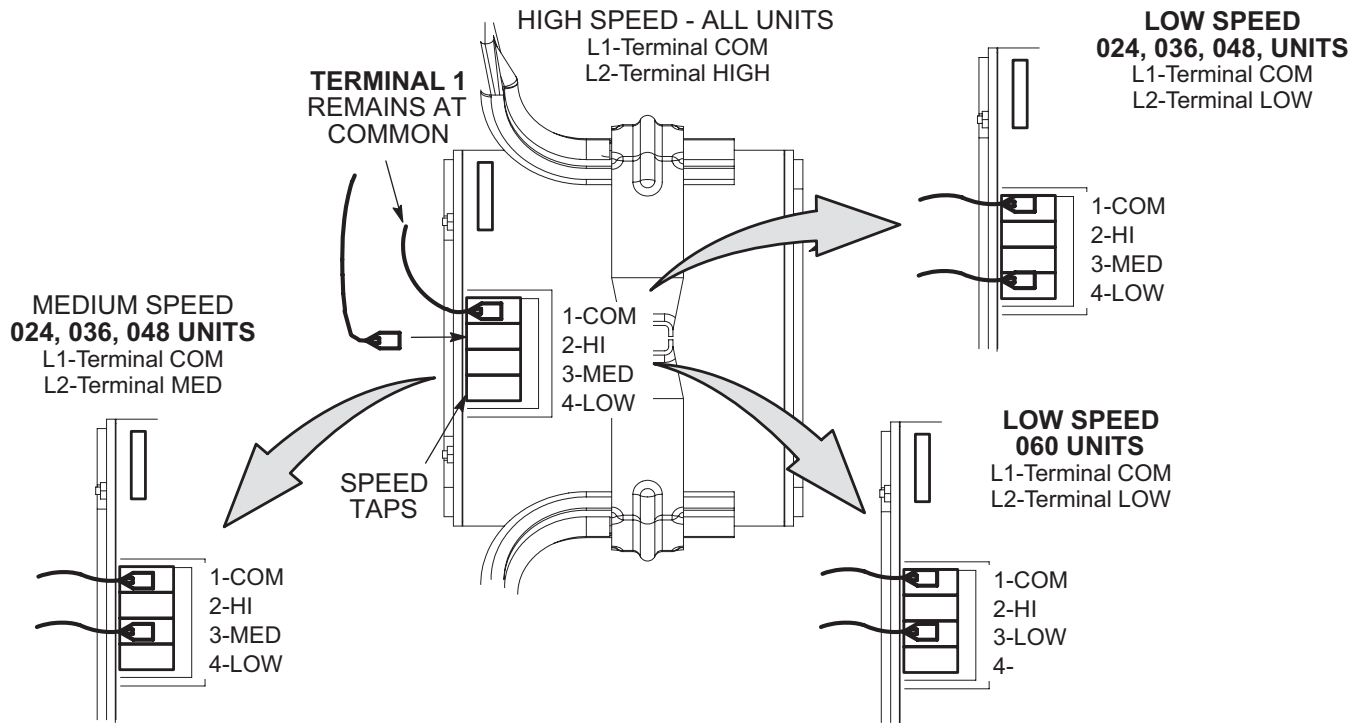
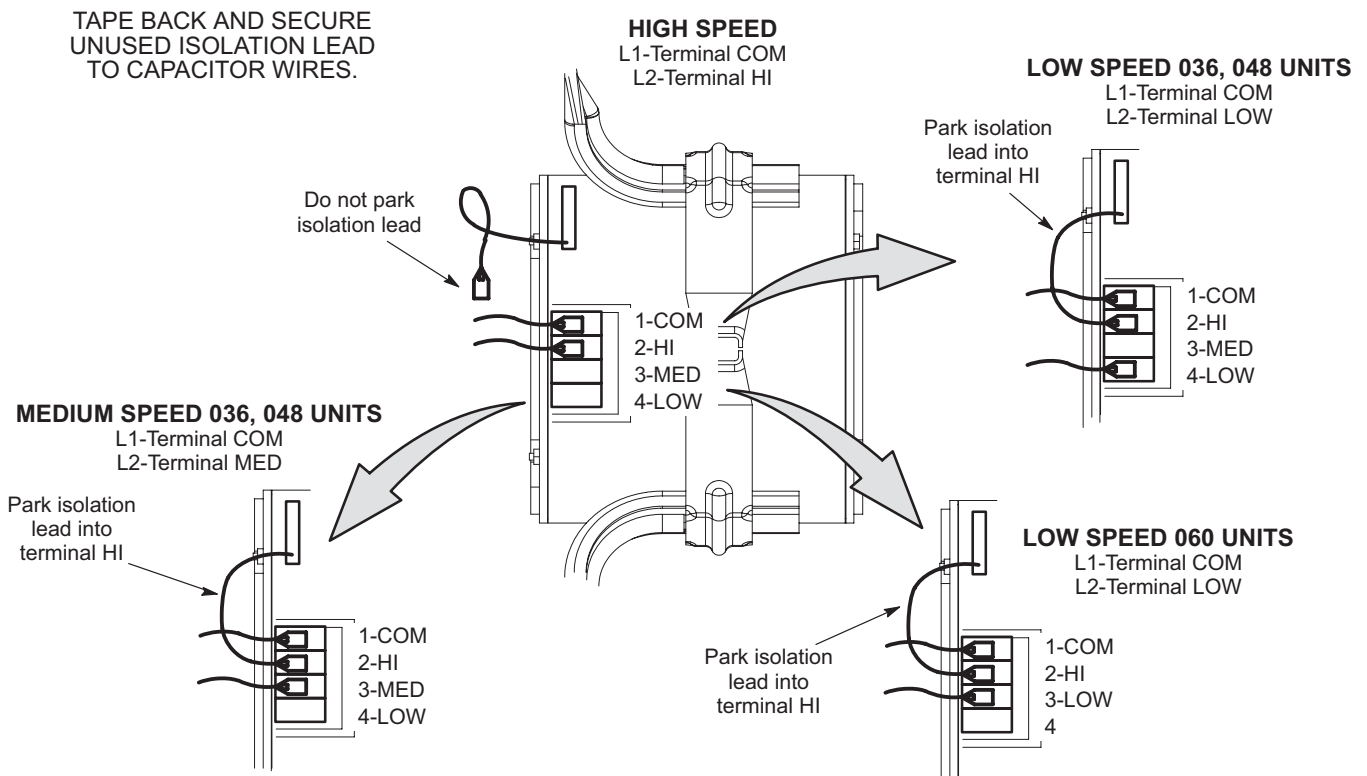

FIGURE 11
FIGURE 12
- 4 - Use the blower tables (see table of contents), measured static pressure and the factory-set blower speed to determine CFM. If CFM is lower or higher than the design specified CFM, move the leads as shown in FIGURE 11 for 208/230 volt units and FIGURE 12 for 460/575 volt units.